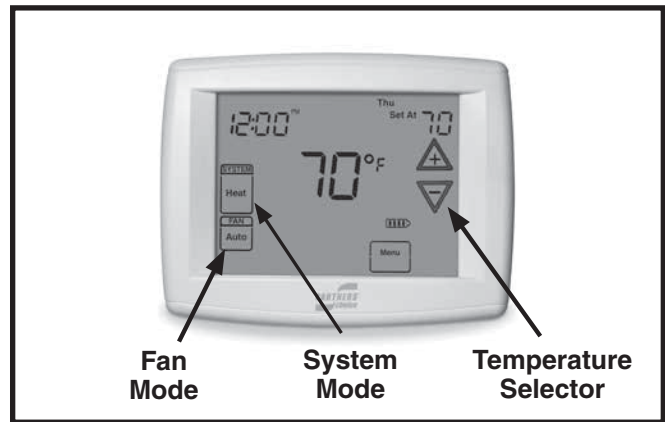

Figure 1. Typical Digital Thermostat
1. Set the thermostat's system mode to COOL or AUTO and change the fan mode to AUTO or ON. See Figure 1.
1. Set the thermostat's system mode to HEAT or AUTO and change the fan mode to AUTO or ON. See Figure 1.
1. Set the thermostat system mode to AUTO and the thermostat fan mode to AUTO. See Figure 1.
Set the thermostat fan mode to ON (Figure 1). The indoor blower starts immediately, and will run continually until the fan mode is reset to AUTO.
Change the thermostat's system mode to OFF and the fan mode to AUTO. See Figure 1. **NOTE:** The system will not operate, regardless of the temperature selector setting.